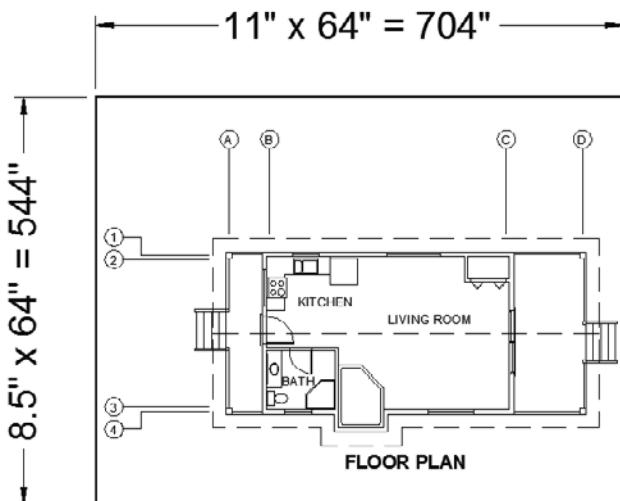

FIGURE 8.38 Approximating the viewable area for the $3/16"$ = 1'-0" scale
To answer that question, you have to ask how big an area will fit on an 8.5"×11" (210 mm×297 mm) sheet at $\frac{3}{16}'' = 1'-0''$ (1:60) scale. The answer is quite simple: if every inch (millimeter) on the sheet represents 64" (60 mm) in the drawing ($12'' / (\frac{3}{16}'')$) (60/1), you multiply each dimension of the sheet in inches (millimeters) by 64" (60) per inch. For this sheet, you multiply $8.5'' \times 64''$ (210 mm × 60) per inch to get 544" (12,600 mm) or 45'-4" (see Figure 8.38). You multiply $11'' \times 64''$ (297 mm × 60) per inch to get 704" (17,820 mm) or 58'-8" (see Figure 8.38). So, the 8.5"×11" (210 mm×297 mm) sheet represents a rectangle with dimensions of approximately 45"×58" (12,600 mm×17,820 mm) at a scale of $\frac{3}{16}'' = 1'-0''$ (1:60) (usually called *three-sixteenths inch scale*). Because most printers and plotters are not full-bleed devices, you'll need to factor in room for a margin around the outer edge of your sheet. While the floor plan fits without any problems, you may need to adjust the column lines for them to fit into the printable area. Chapter 14 will discuss layouts